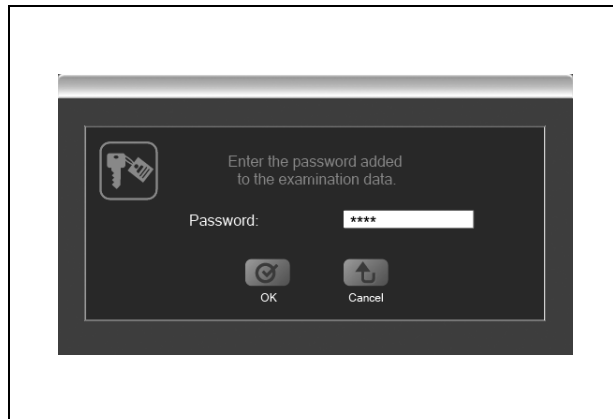

Figure 6.3
- If the examination data is password-protected, the password input screen is displayed (see Figure 6.3). Enter the password for the examination data and click the [OK] button.